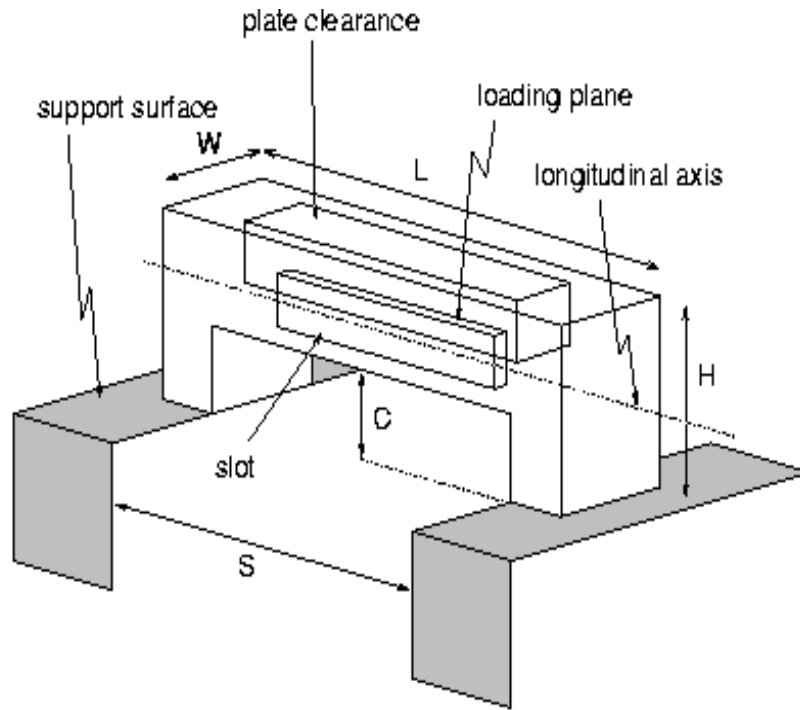

Figure 1. Bridge schematic (not to scale)
- The bridge (see Figure 1) must span a gap (**S**) of 300 mm, have a clearance (**C**) of 100 mm above the support surfaces at the center of the span, be no longer (**L**) than 400 mm, have a maximum width (**W**) of 60 mm and be no taller (**H**) than 250 mm above the support surfaces. No portion of the bridge may project below the elevation of the support surfaces.
- The bridge must be constructed with a slot at least 150 mm long and at least 12 mm wide, centered on the center of the bridge (see Figure 1) to allow the eyebolt connecting the plate to the loading rod to pass vertically through the bridge over the entire length of the slot.